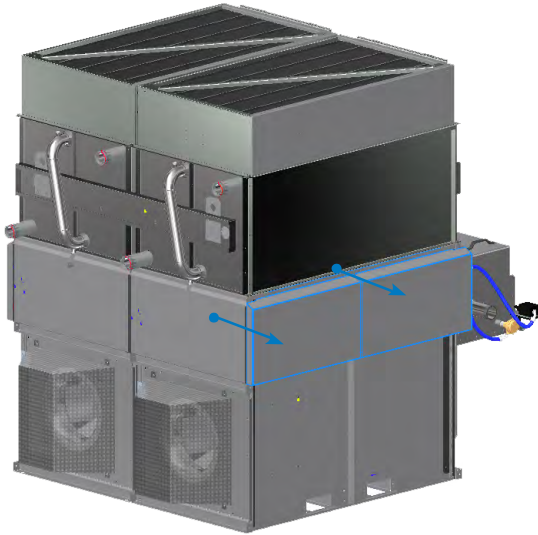

Figure 12. Location of Component Wiring
2. Remove the side cover panel located on the opposite side of control panel. Find the component wire (drain valve, or make-up valve) stored under cover panel. See **Figure 12**.
2. Find the drain valve component wires on the side of unit opposite the control panel. Pull the wire around the corner to back (opposite the basin side) and secure it to the mounts with zip ties (provided by BAC). Pull the wire through the first notch from top and secure the wire to the hole with zip ties. See **Figure 12** and **15**.